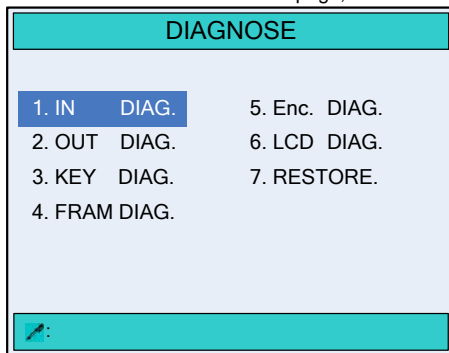

Figure 4-1 The **DIAGNOSE** page
- Step 3** Move the cursor to parameter **mm/inch** or **中文/English**, enter the password **5656**, and press  to enter the **PARAMETER SET** page, as shown in Figure 4-1.